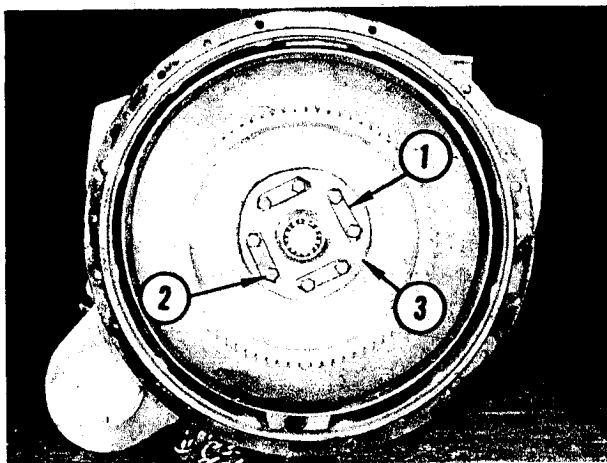

FIGURE 19. CONVERTER CAP REMOVAL
Refer to Figure 19. Using hammer and chisel, or other blunt tool, flatten corners of locking plates (1). Remove the eight cap-